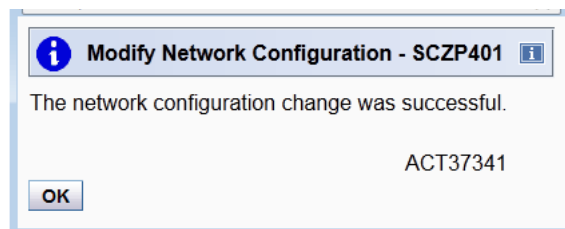

Figure 3-40 Message ACT37341 - Modify Network Configuration successful
6. Click **Yes** to confirm. This is confirmed by message ACT37341 (Figure 3-40).